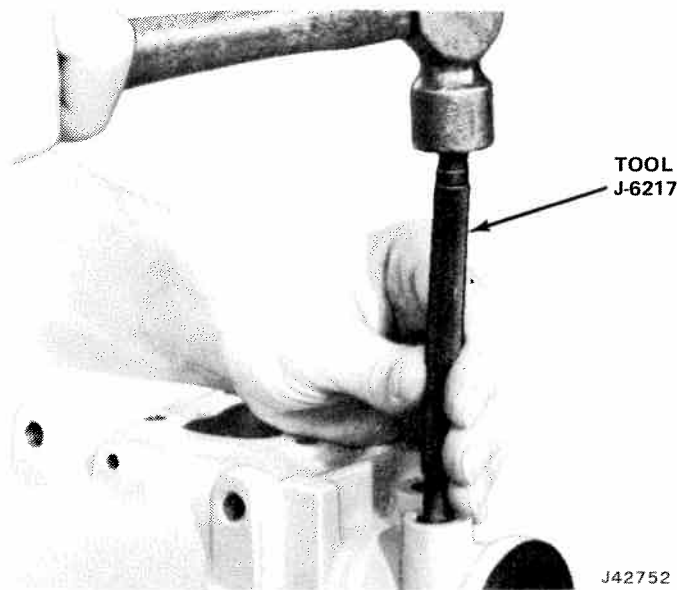

Fig. 11-71 Driving in Connector
(4) If it is necessary to remove the poppet valve from the pressure port, use a No. 5 screw extractor. Drive a new connector into the connector port with Connector Installation Tool J-6217 as shown in figure 11-71.